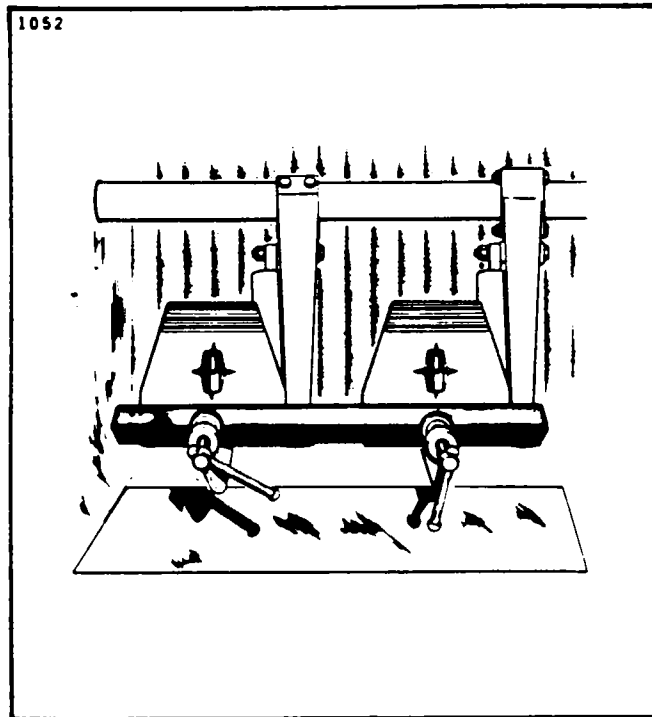

Figure 32-8. Clamping Rudder Pedals in Neutral Position
- G. Clamp rudder pedals to align in a lateral position. (Refer to Figure 32-8.)
D. Clamp the rudder pedals to align in a lateral position. (Refer to Figure 32-8.) Adjust the rod end bearings of each steering control rod to align the plumb bob with the centerline marked on the jig end to bring the pedals in neutral angle forward and aft. The neutral angle is at station 65.75 and center of the rudder pedal horizontal tube. (Refer to Figure 32-9.) Do not attempt to make the adjustment by means of one bearing, but divide the adjustment between the bearings at each end of the steering rods. Check that rod ends have sufficient gripping thread by ascertaining that a wire will not go through the check hole in the rod, and then tighten locknut.